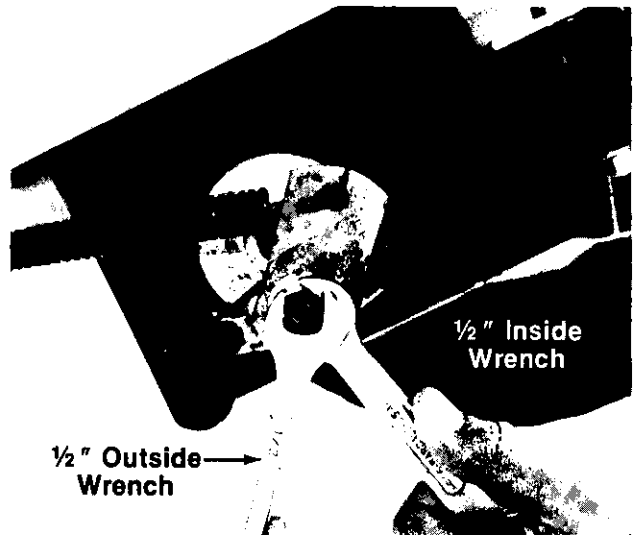

FIGURE 14.
3. Tighten the outside nut against the inside nut, using two 1/2" wrenches. See figure 14.